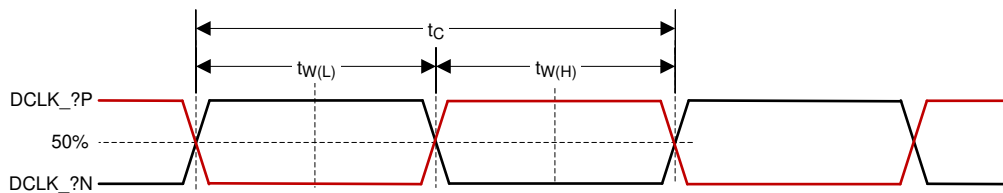

图 5-12. HSSI CLK Characteristics
- (7) See 图 5-12 for pulse duration high and low for HSSI.